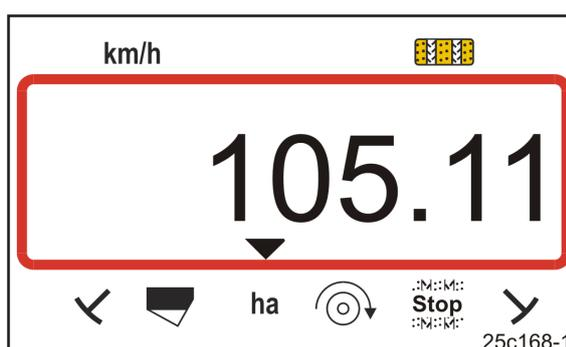

Fig. 35
- Display (Fig. 35): total worked area (e.g. 105.1 ha).